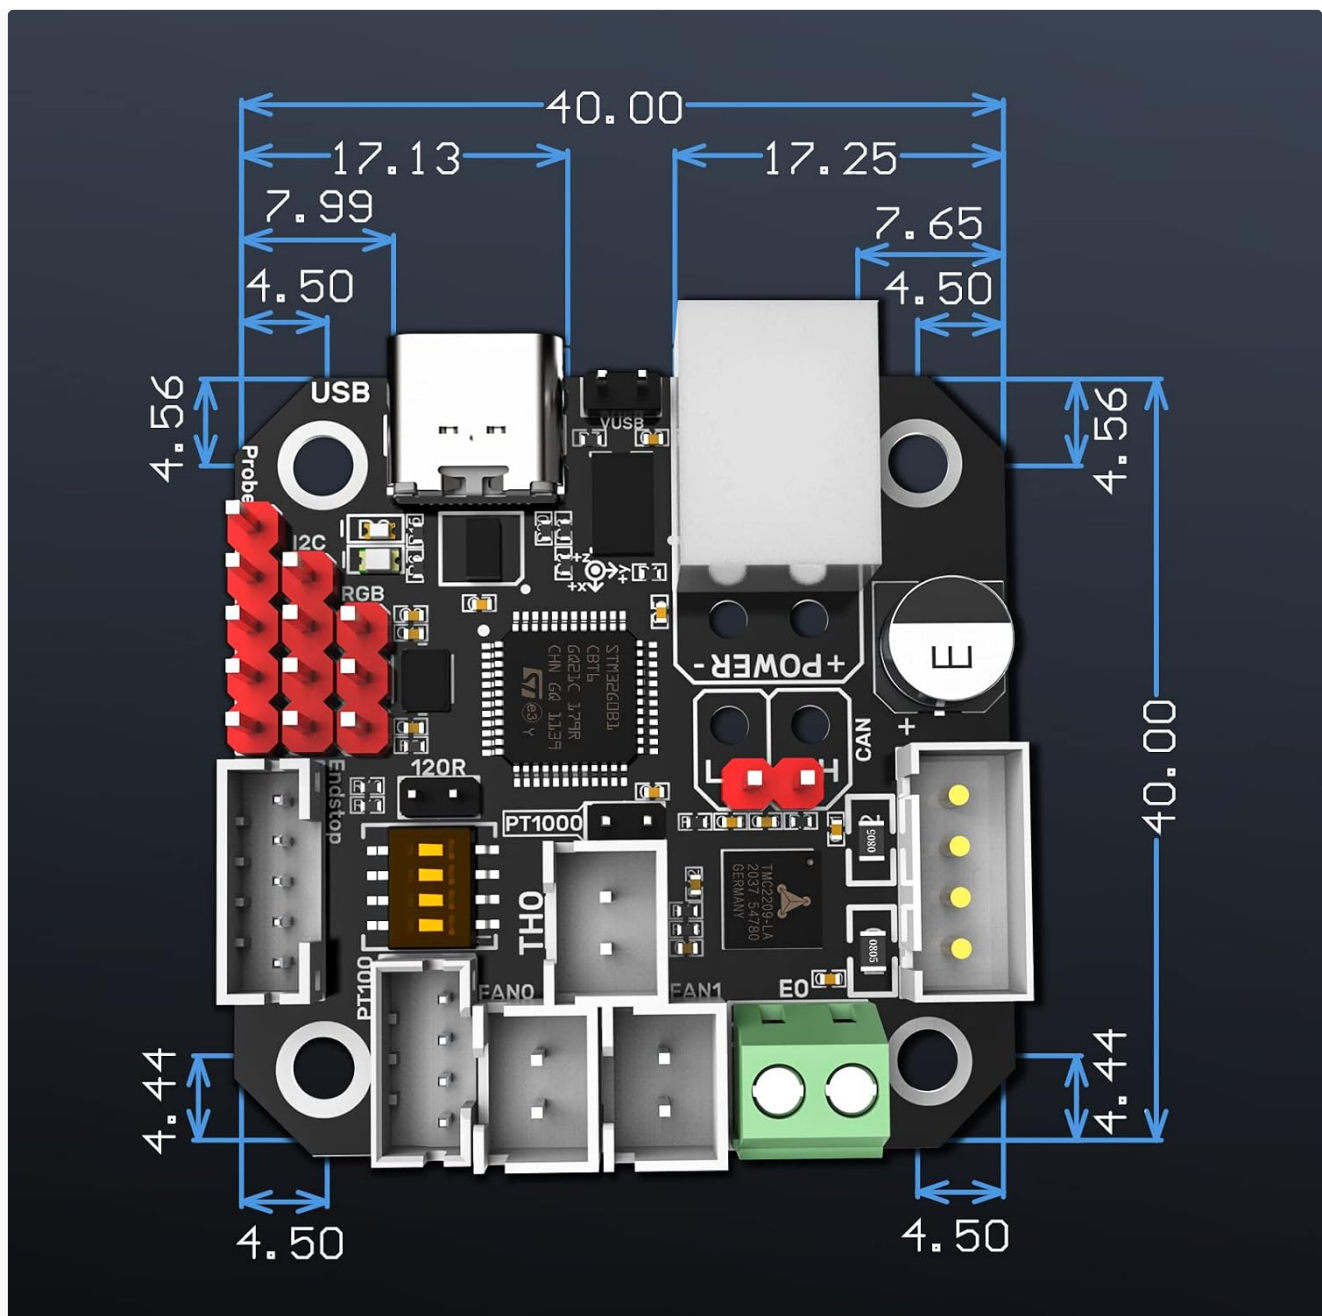

Figure 8.1: Detailed dimensions of the EBB42 board, showing key measurements in millimeters for integration into 3D printer setups.
- **Mounting Hole Spacing:** Refer to Figure 8.1 for specific measurements.